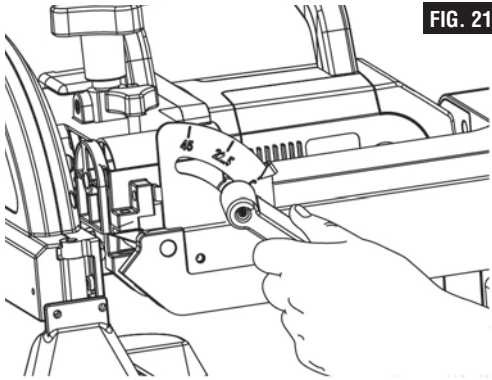

FIG. 21
1. Loosen the bevel-cut-adjustment knob in the rear of the saw (Fig. 21).